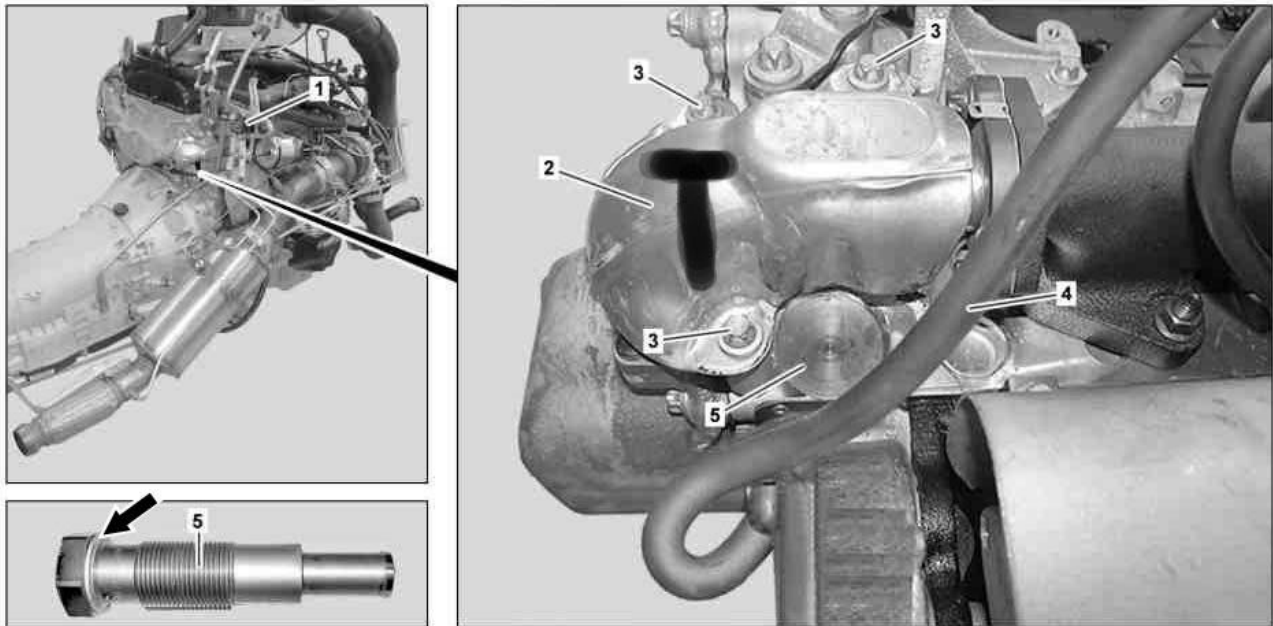
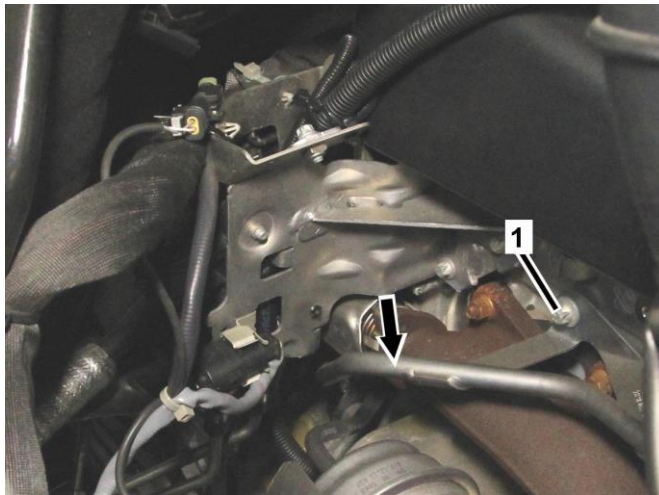

Figure 5
Figure 6
12. Remove bolts (3, Figure 5) and remove heat shield (2).
13. Slightly lift transmission dipstick tube (arrow, Figure 6) then remove timing chain tensioner (5, Figure 5).
14. Place timing chain tensioner (5, Figure 5) into a vice; refer to WIS: AR05.10-D-7800-04WE.
15. Replace timing chain tensioner sealing ring (arrow, Figure 5).
16. Start timing chain tensioner (5, Figure 5) into engine by hand.
17. Torque timing chain tensioner (5, Figure 5) to 80 Nm.
18. Mark heat shield (2, Figure 5) with the letter "T" (using permanent marker) to indicate campaign has been performed.
- Heat shield screws (3, Figure 5): 8 Nm.